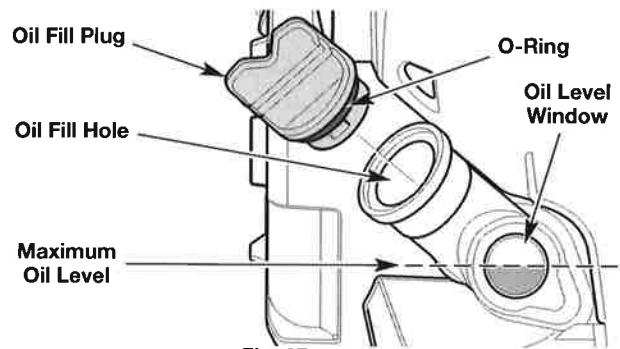

Fig. 27
3. Look into the oil level window; use a flashlight if necessary. **The oil level should fill the window approximately halfway** (Fig. 27). If the oil level is too low, add oil. Refer to Adding Oil.
1. Clean the area around the oil fill plug (Fig. 27) to prevent debris from entering the oil fill hole.
3. Add oil to the oil fill hole until the oil level is approximately halfway up the oil level window (Fig. 27).
5. Make sure the O-ring is in place on the oil fill plug (Fig. 27).
7. Make sure the O-ring is in place on the oil fill plug (Fig. 27).